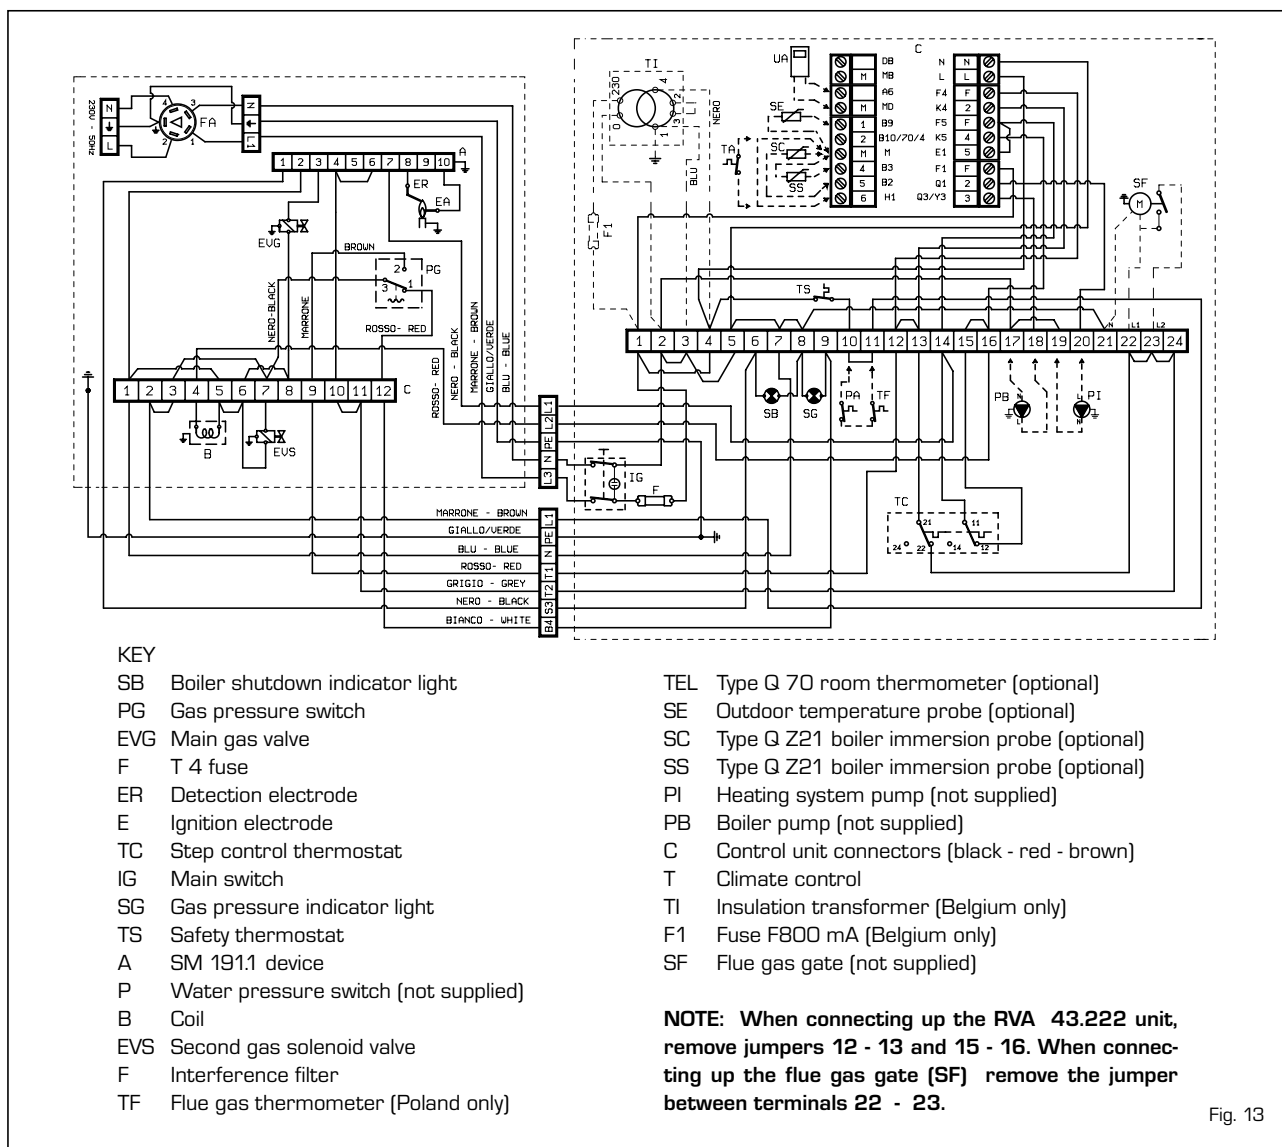

Fig. 13
The electrical power supply must be connected to terminals L and N and to the panel complying with all phase and neutral positions as shown in the diagram. If they are not connected properly, the flame detection circuit will not work and the boiler will be shut down. The boiler must be connected up to a single phase 230V-50Hz power supply through a main switch protected by fuses with at least 3 mm between contacts (fig. 13).
All boiler functions can be controlled by the optional control unit code 8096303, supplied with an outdoor temperature probe (SE) and boiler immersion probe (SC) (fig. 14). Use of the control unit requires connection of an additional series of low voltage connectors for connection of probes and the room temperature control unit (the connectors are supplied in a bag in the control panel). Il bulbo della sonda dell'eventuale bollitore esterno (SS), optional cod. 6277110, must be inserted in the hot water sheath and the boiler probe (SC) in the boiler sheath. To assemble the outdoor temperature probe (SE), follow the instructions provided on its packaging. Refer to the wiring diagram in fig. 13 for electrical connections.
To install the control unit, connect these connectors and remove jumpers 13 - 14 and 16 - 17 from the terminal board (fig. 13). The control unit also permits use of room temperature control units and probes; polarised, coloured connectors for these are located in a bag inside the control panel.